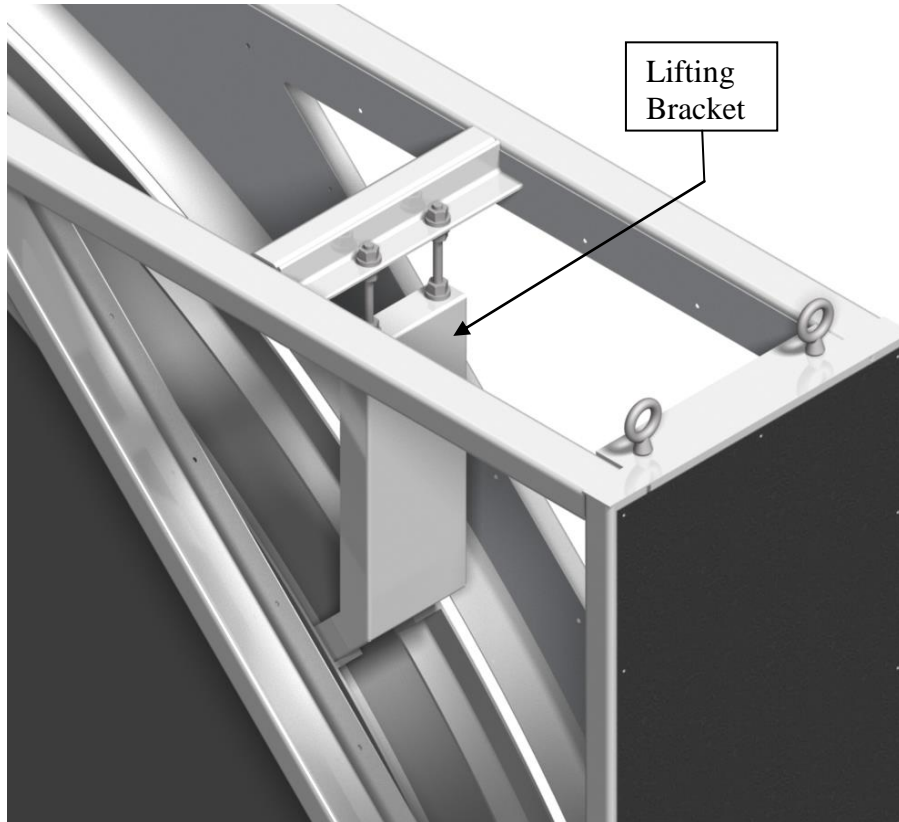

Figure 4 (top panel not shown for clarity)
- Remove the access panels at the top corners to access the rotor lifting brackets on either side (see Figure 4). Use these brackets to slowly lower the top half of the rotor onto the bottom half. Do not remove the brackets at this time.
- Remove the lifting brackets (shown in Figure 4) and store them for possible future use.